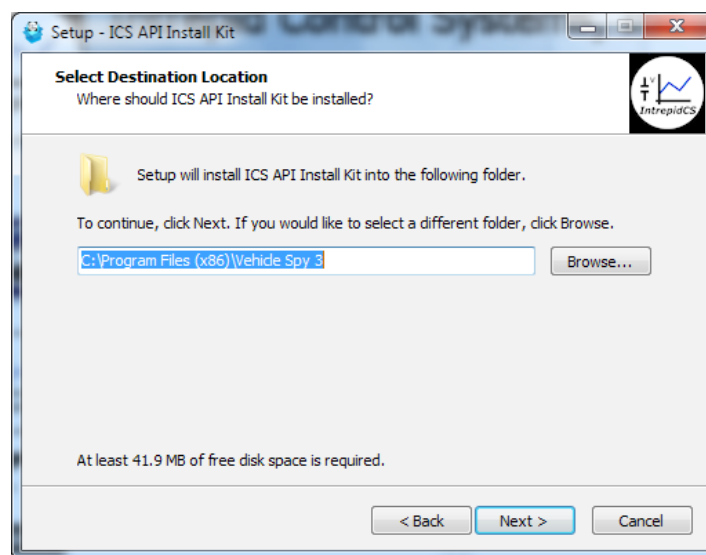

Figure 27: Choosing the API Kit Destination Location.
7. **Select Destination Location:** Choose where you want to install Vehicle Spy 3 (Figure 27). We normally recommend keeping the default location. Click .